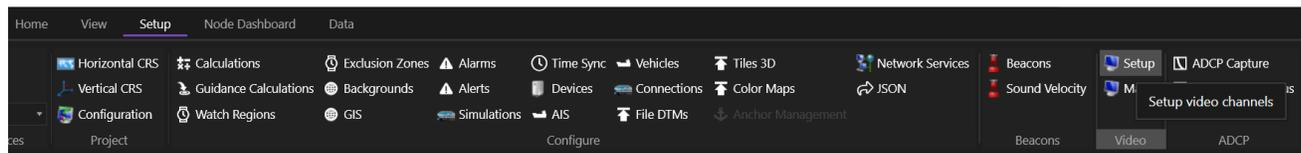
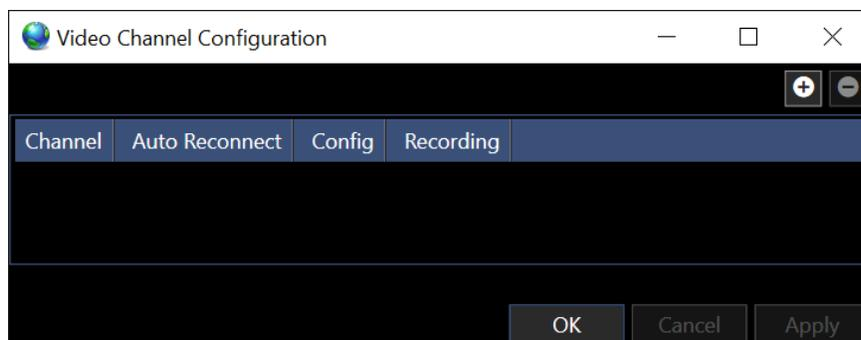

FIGURE 8 VIDEO SETUP – SETUP RIBBON
FIGURE 9 VIDEO CHANNEL CONFIGURATION
- Click on the Video Setup button as shown in Figure 8 Video Setup – Setup Ribbon, to open the Video Channel Configuration window, see Figure 9. This window will allow the user to add, remove and configure video channels.